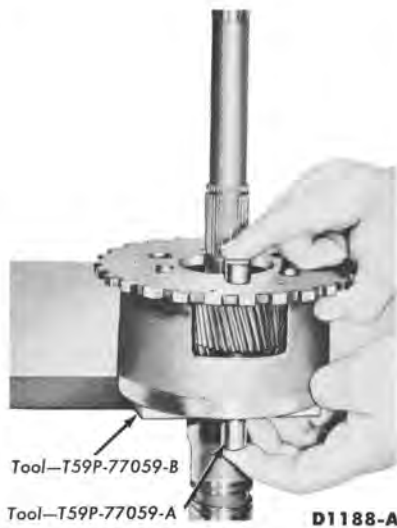

FIG. 16—Short Pinion Removal or Installation
3. With the tool shown in Fig. 16, push a short pinion shaft up from the bottom until the tool clears the top of the gear spacer. Now, slide the short pinion and its upper and lower thrust washers out the pinion carrier window. **To avoid loss of needle bearings, carefully keep both washers in position against the pinion.** Retain the needle bearings and spacer in the short pinion by pushing the tool out with the removed shaft. Remove the gear spacer.
10. Use the marked shaft for this location to push the dummy shaft and extra pinion shaft out the bottom (Fig. 16).